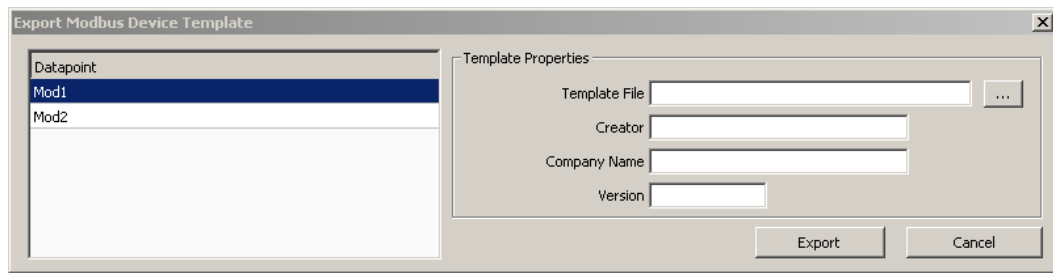

Figure 195 Export Modbus Device Template dialog.
- Press the **Export Device Templ.** button. This opens the **Export Modbus Device Template** dialog shown in Figure 195. The list on the left side of the dialog shows the names of the data points which are exported to the template.
- This opens the **Export Modbus Device Template** dialog as shown in Figure 195. Proceed as described above.